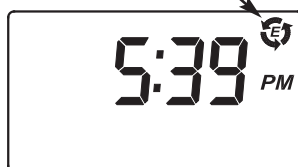

FIG. 25
3. Press the PROGRAM button three times to return to the normal run display (See Figure 25).